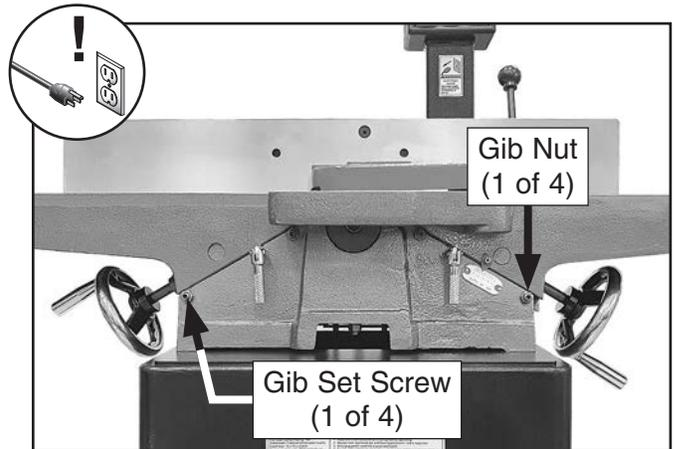

Figure 52. Infeed table gib controls.
- Loosen two infeed table gib nuts on front of jointer base (see **Figure 52**).